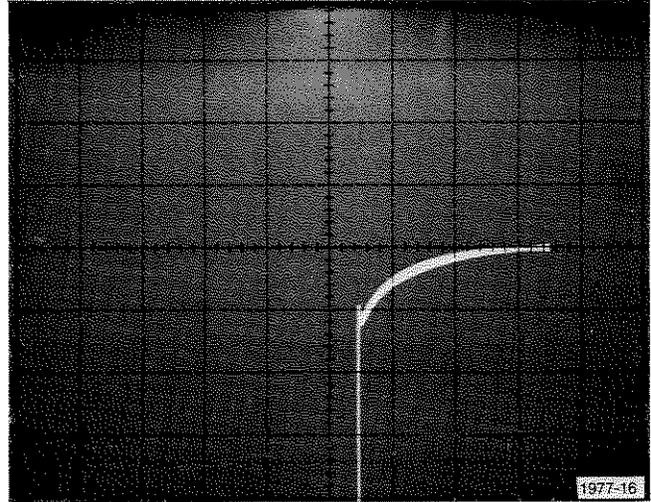

Fig. B-5. Display of \pm power supply rejection ratio (\pm psrr).
- Calculate \pm PSRR using the same methods as used in Steps 2 and 3 for calculating +PSRR and -PSRR. See Fig. B-5.